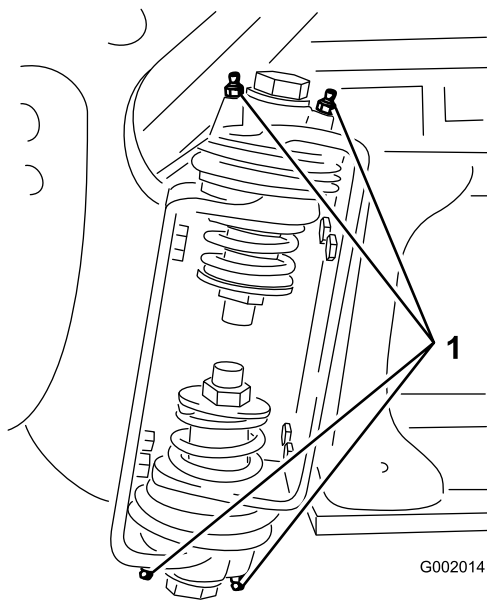

Figure 73
2. Pump grease into the bearing or bushing at each fitting (Figure 73).